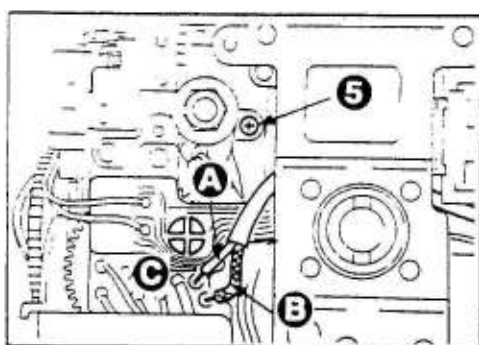
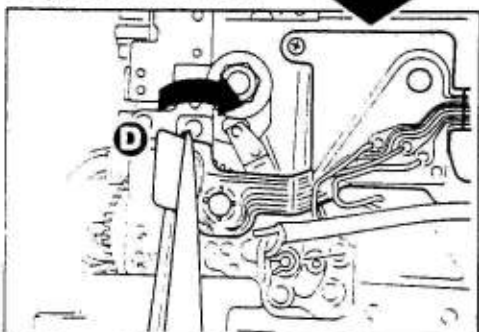

Fig. 2 BOTTOM VIEW
Fig. 3
2. Set the release selector at the release position (set the index mark (A) to the □ mark (B).), and remove the left cover. (See Fig. 2.)
2. Unsolder orange C and black D lead wires from the switch S4. (See Fig. 2.)
3. Unsolder pink E and black F lead wires from the MR unit B (magnet). (See Fig. 3.)
3. Remove the synchro-cords (A) and (B) from the relay substrate. (See Fig. 2.)
4. Unsolder four connected points of the main flexible substrate (C), using the desoldering wire (solder-wick).
5. Peel off the main flexible substrate in the arrow direction. (As this is adhered with pressure sensitive double coated tape, be careful not to break the flexible substrate. (See Fig. 3.)
2. With desoldering wire (solder wick) remove the lead wires (A), (B), (E) (each 2 wires), (F) (2 places), and connected parts of flexible substrate (C), (D), (G). (See Figs. 2 and 3.)